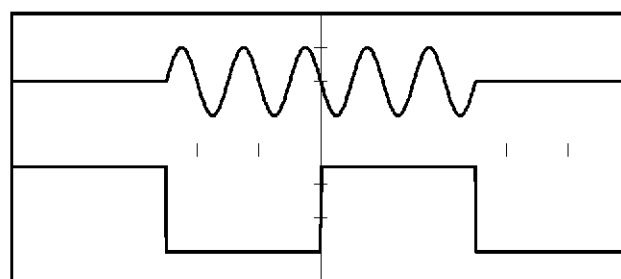

Figure 8-17 Waveform for Gated (edge), Negative
39. Make sure with the oscilloscope that a sine wave signal is output from the falling edge of the trigger signal to the next falling edge, as shown in Figure 8-17.